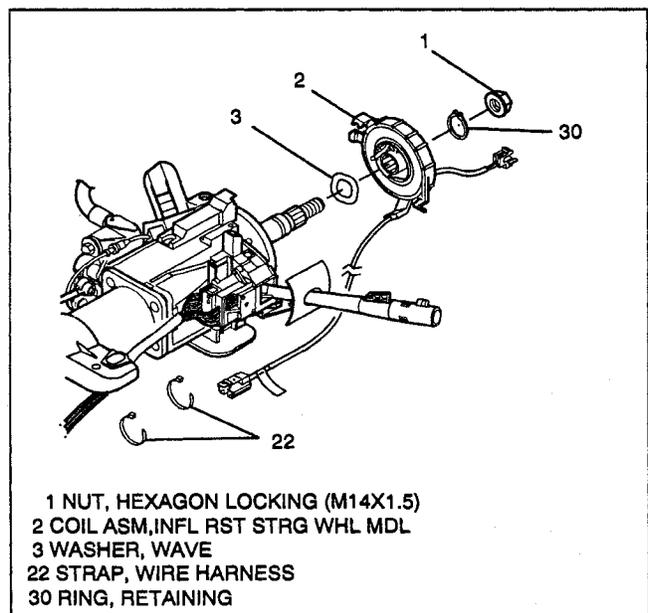

Figure 6 - Removing Coil Assembly
4. Retaining ring (30).
5. Coil assembly (2). (See Figure 6)
6. Wave washer (3).
7. Two wire harness straps (22) from steering column wire harness.